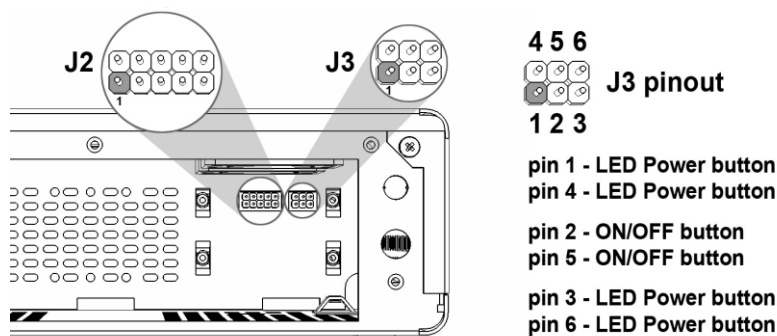

Figure 19 -- J2 (USB Header) and J3 (2x3) pin header, view from the back of Enclosure
4. Connect the ON/OFF and Power LED cables (J3 in Figure 19) to the motherboard using the cable harness provided with the enclosure, see **Figure 19**. Also, you can connect the USB header (J2 in Figure 19), if needed. Connect the ON/OFF and Power LED cables (J3 in Figure 19) to the motherboard using the cable harness provided with the enclosure. Also, you can connect the USB header, if needed.